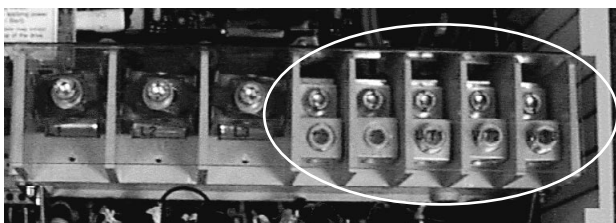

Figure 4.1.34: Box Lug Power Terminals
3. Remove user power wiring from lug being replaced. See Figure 4.1.34.